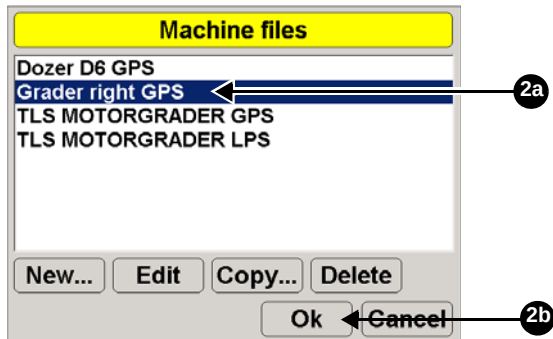

Figure 3-8. Applying a Machine Configuration
2. Select the machine file and press **Ok** (Figure 3-8).